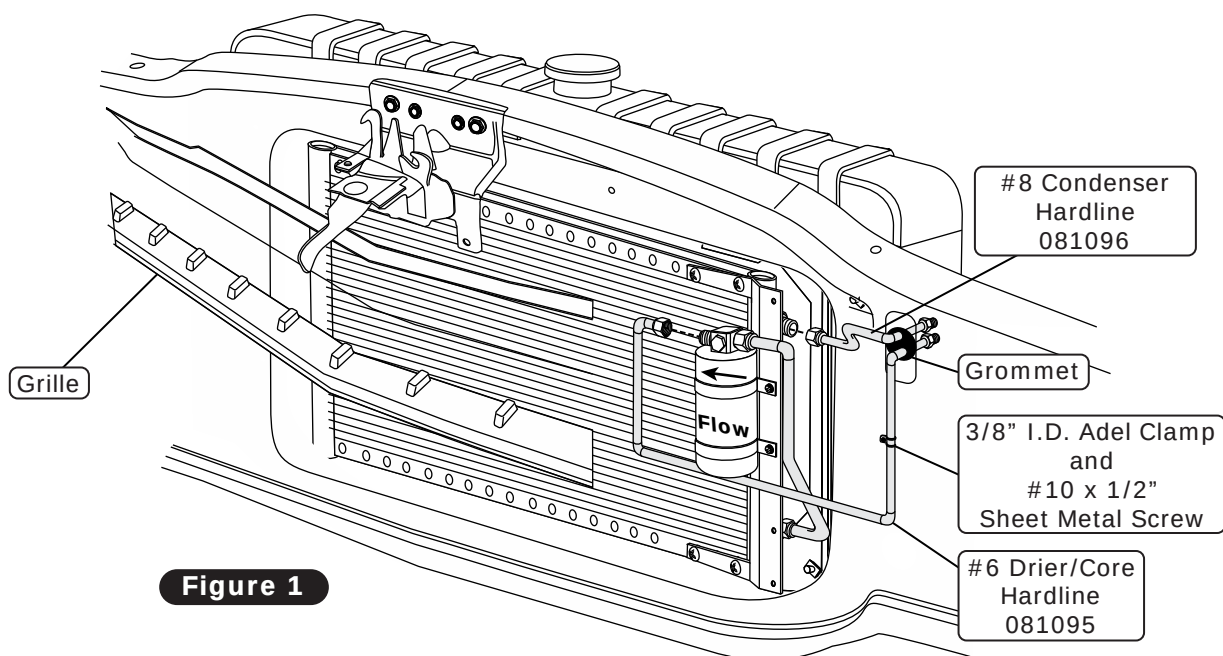

Figure 1
3. Secure the #6 drier/core hardline onto the core support with a 3/8" I.D. Adel clamp and a #10 x 1/2" sheet metal screw as shown in Figure 1, below.